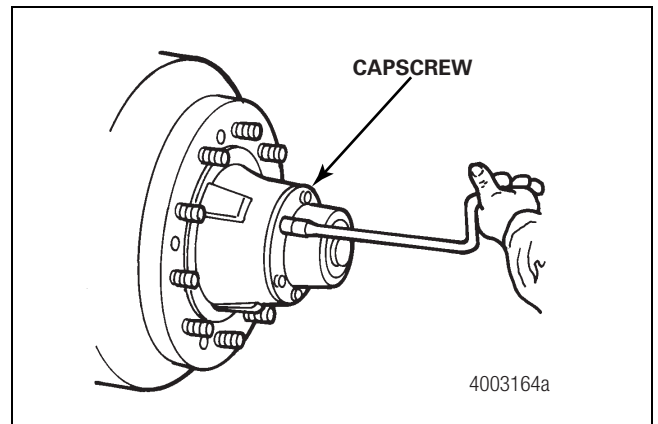

Figure 5.13
8. Install the hubcap by tightening the capscrews to 15-30 lb-ft (20-41 N•m) in a criss-cross pattern. Use a new hubcap gasket. Figure 5.13. **ⓘ**